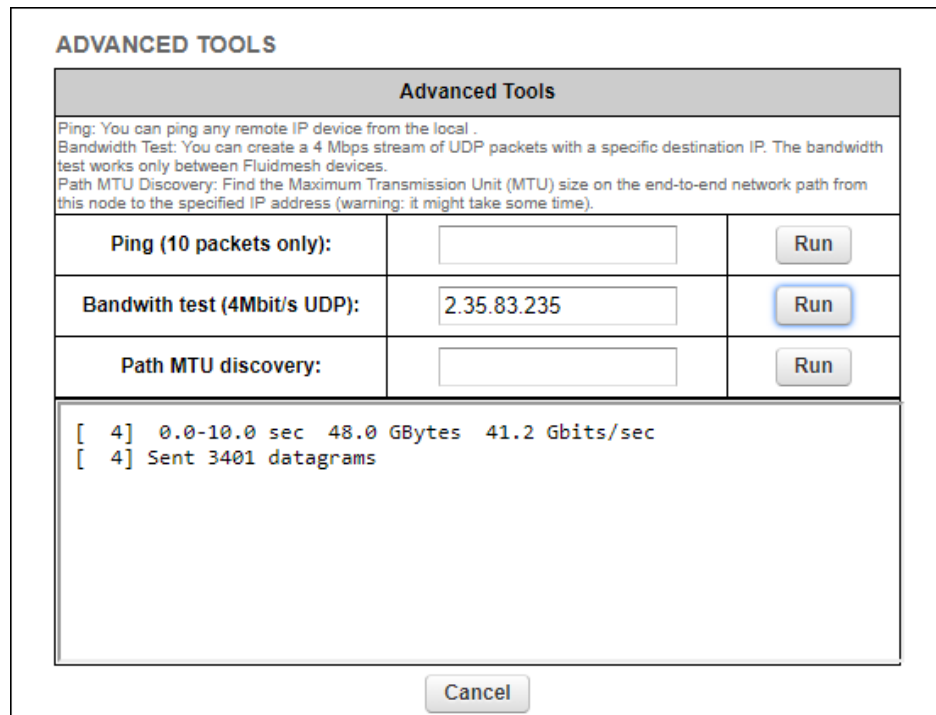

Figure 32. Advanced Tools window (Bandwidth test tool)
- Enter the IP address of the other unit in the **Bandwidth test (4Mbit/s UDP)**: field (Figure 32 (page 88)).